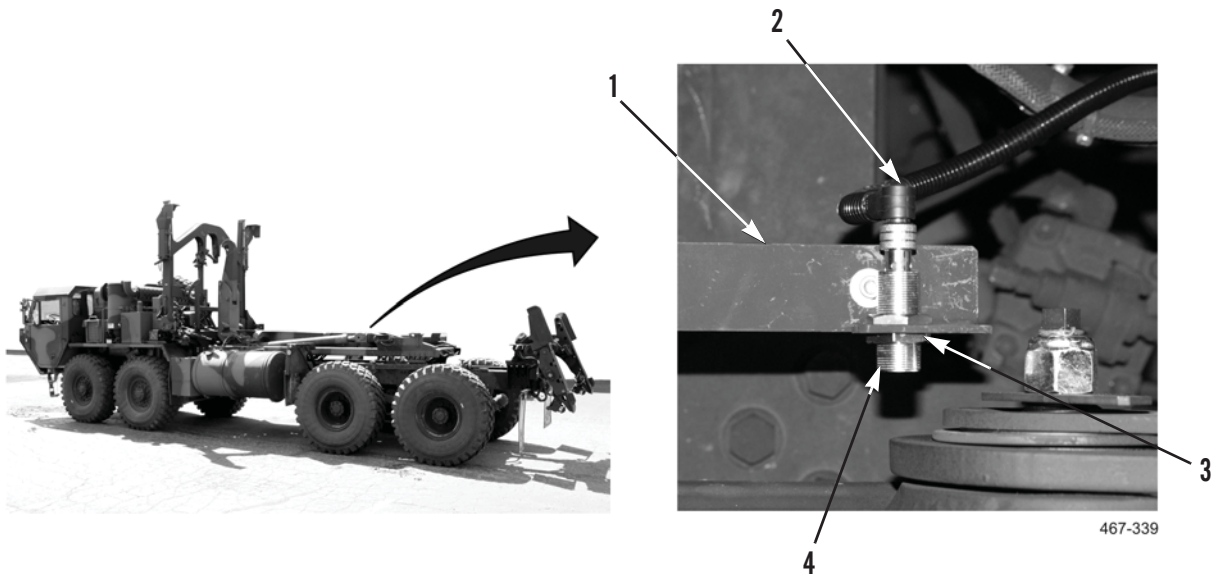

Figure 2. Middle Frame Sensor.
1. Disconnect electrical connector (Figure 2, Item 2) from middle frame sensor (Figure 2, Item 4).
2. Remove locking nut (Figure 2, Item 3) from middle frame sensor (Figure 2, Item 4).
3. Remove middle frame sensor (Figure 2, Item 4) from bracket (Figure 2, Item 1).